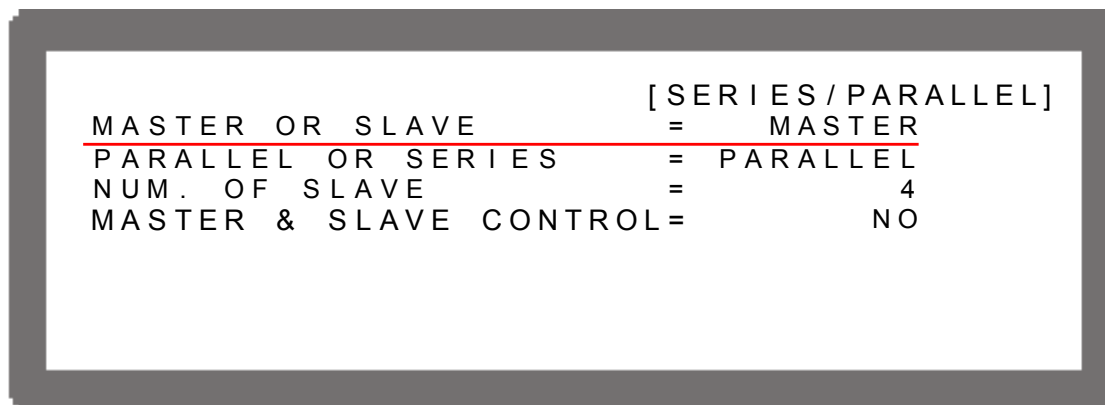

Figure 3-36
1. In Config Setup page, press "3" and "ENTER" to select PARALLEL /SERIES and display Figure 3-36.